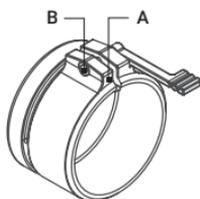

FIGURE 2-7. FRONT ADAPTER LEVER ADJUSTMENT
- 1) Loosen the locking screw (Fig.2.7, A) on the side of mount with the hex-nut wrench (1.5mm).
- 2) Tighten the adjustment screw (Fig.2.7, B) of lever with a clamping force necessary to ensure that the adapter fits tightly the objective lens.
- 3) Tighten the locking screw (A).